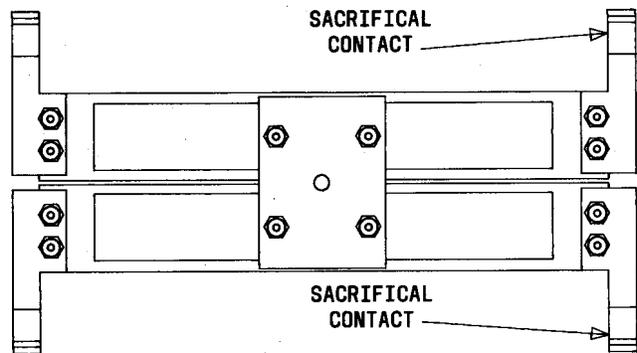

Fig. 3 — DC OUTPUT (S1) Switch — Rotary Contact
- (c) ◆The center arm rotary contact assembly is equipped with sacrificial contacts (Fig. 3).